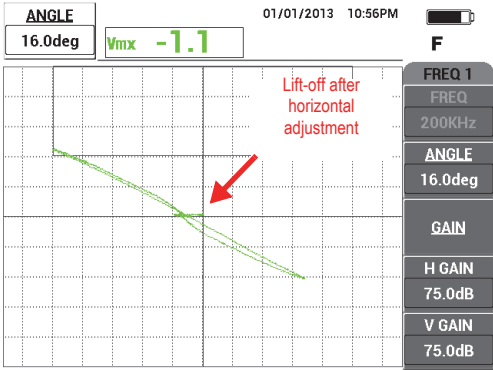

Figure 5-57 Setting the signal as close as possible to horizontal
6. Press the ANGLE key () , and then adjust the signal angle with the knob so that the lift-off (probe motion) signal is as horizontal as possible (see Figure 5-57 on page 169).